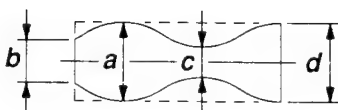

Fig. 5-4-6 Envelope waveform adjustment
3. Make sure the video envelope waveform (in its maximum output) meets the specification shown in Fig. 5-4-6. Again make sure the same by playing back the SP mode 3MHz video signal on the alignment tape ST-C1. If not satisfied, adjust as follows:
1. Make recordings and play back on E-180 and E-240 tapes in SP and LP modes and make sure the playback output envelope meets the specifications shown in Fig. 5-4-6.